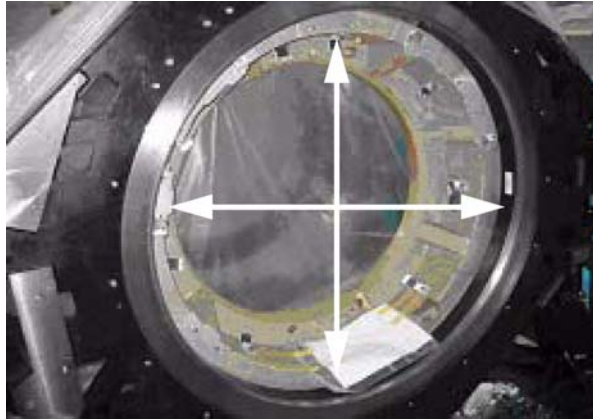

Figure 1-17 Inspection Locations
- 4.) Use a 2.5 mm hex wrench as a tool to measure the gap at the positions shown in Figure 1-17. The location of gantry components does not matter. Measure four (4) locations 90 degrees apart from each other.